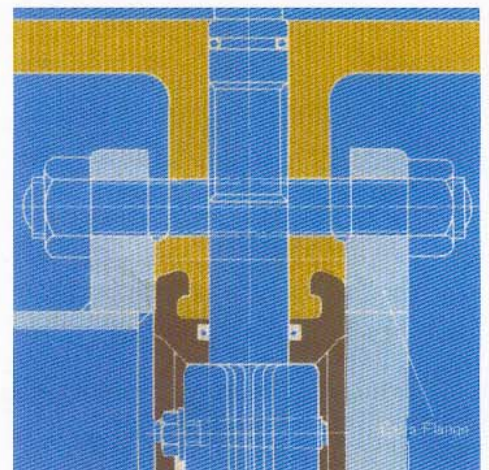

Fig. 4 Dead-End Service with Extra Flange
3. In case dead-end service is anticipated to continue over a long period, it is recommended to put an extra pipe flange on the outer end of butterfly valve to be tightened up together with through bolts. (Refer Fig. 4.)